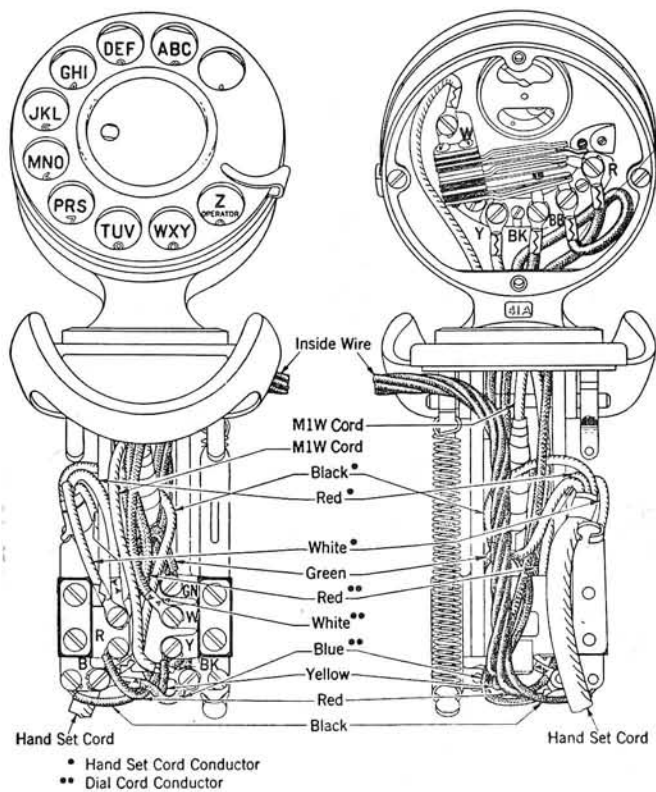

Fig. 2—G1 Type Hand Set Mounting (Dial)
2.02 The **G1 Type Hand Set Mounting** for dial stations is corded as shown on Fig. 2.